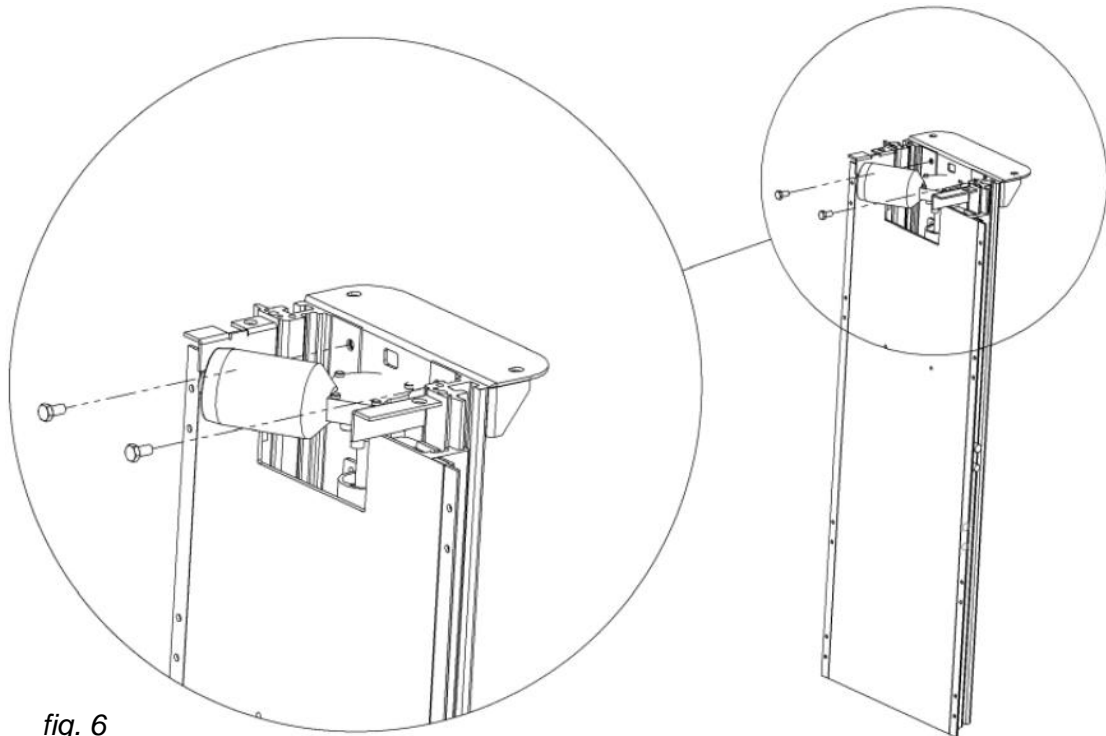

fig. 6
6. Attach the strengthening ceiling bracket to the holes in the upper part of the lift (fig. 6).